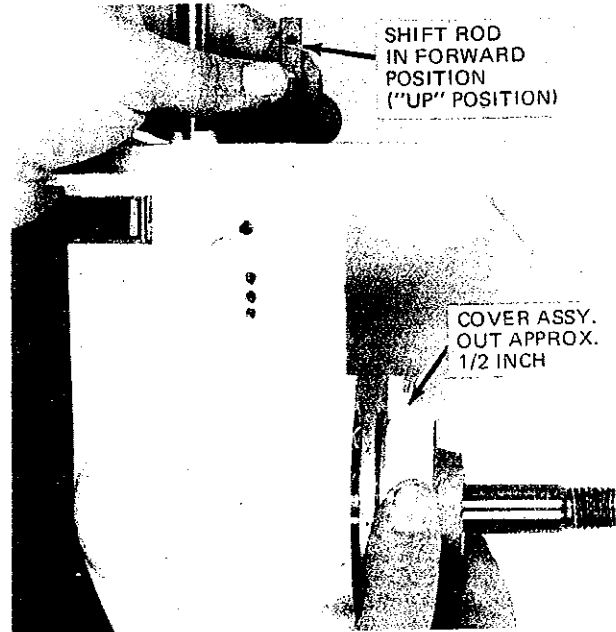

Figure 31. Hold shift rod in forward (up) position.
- AA. Pull the shift rod up into the forward position and slide in the cover assembly so that the fork lever is up and to the point where the cover assembly is approximately 1/2 inch from the gear housing (Figure 31).